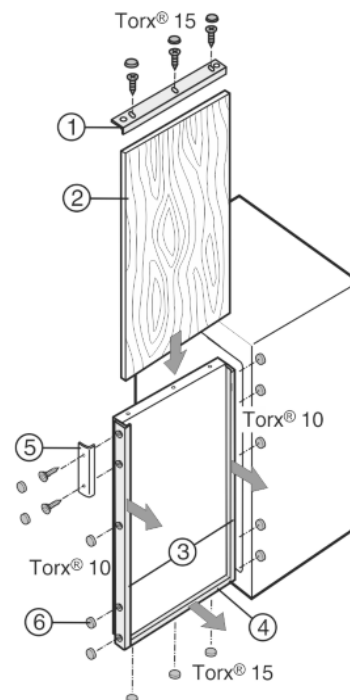

Fig. 39
- Unscrew the décor frame Fig. 39 (1) at the top.
- On all other décor frames Fig. 39 (3, 4), just loosen the screws and slide the frames forward.
- Slide in the décor panel Fig. 39 (2).
- Slide back the décor frame Fig. 39 (3, 4) and screw tight.
- Retighten the décor frame Fig. 39 (1) at the top.
- Screw on the handle Fig. 39 (5).
- Click the cover caps Fig. 39 (6) onto all the screw heads.